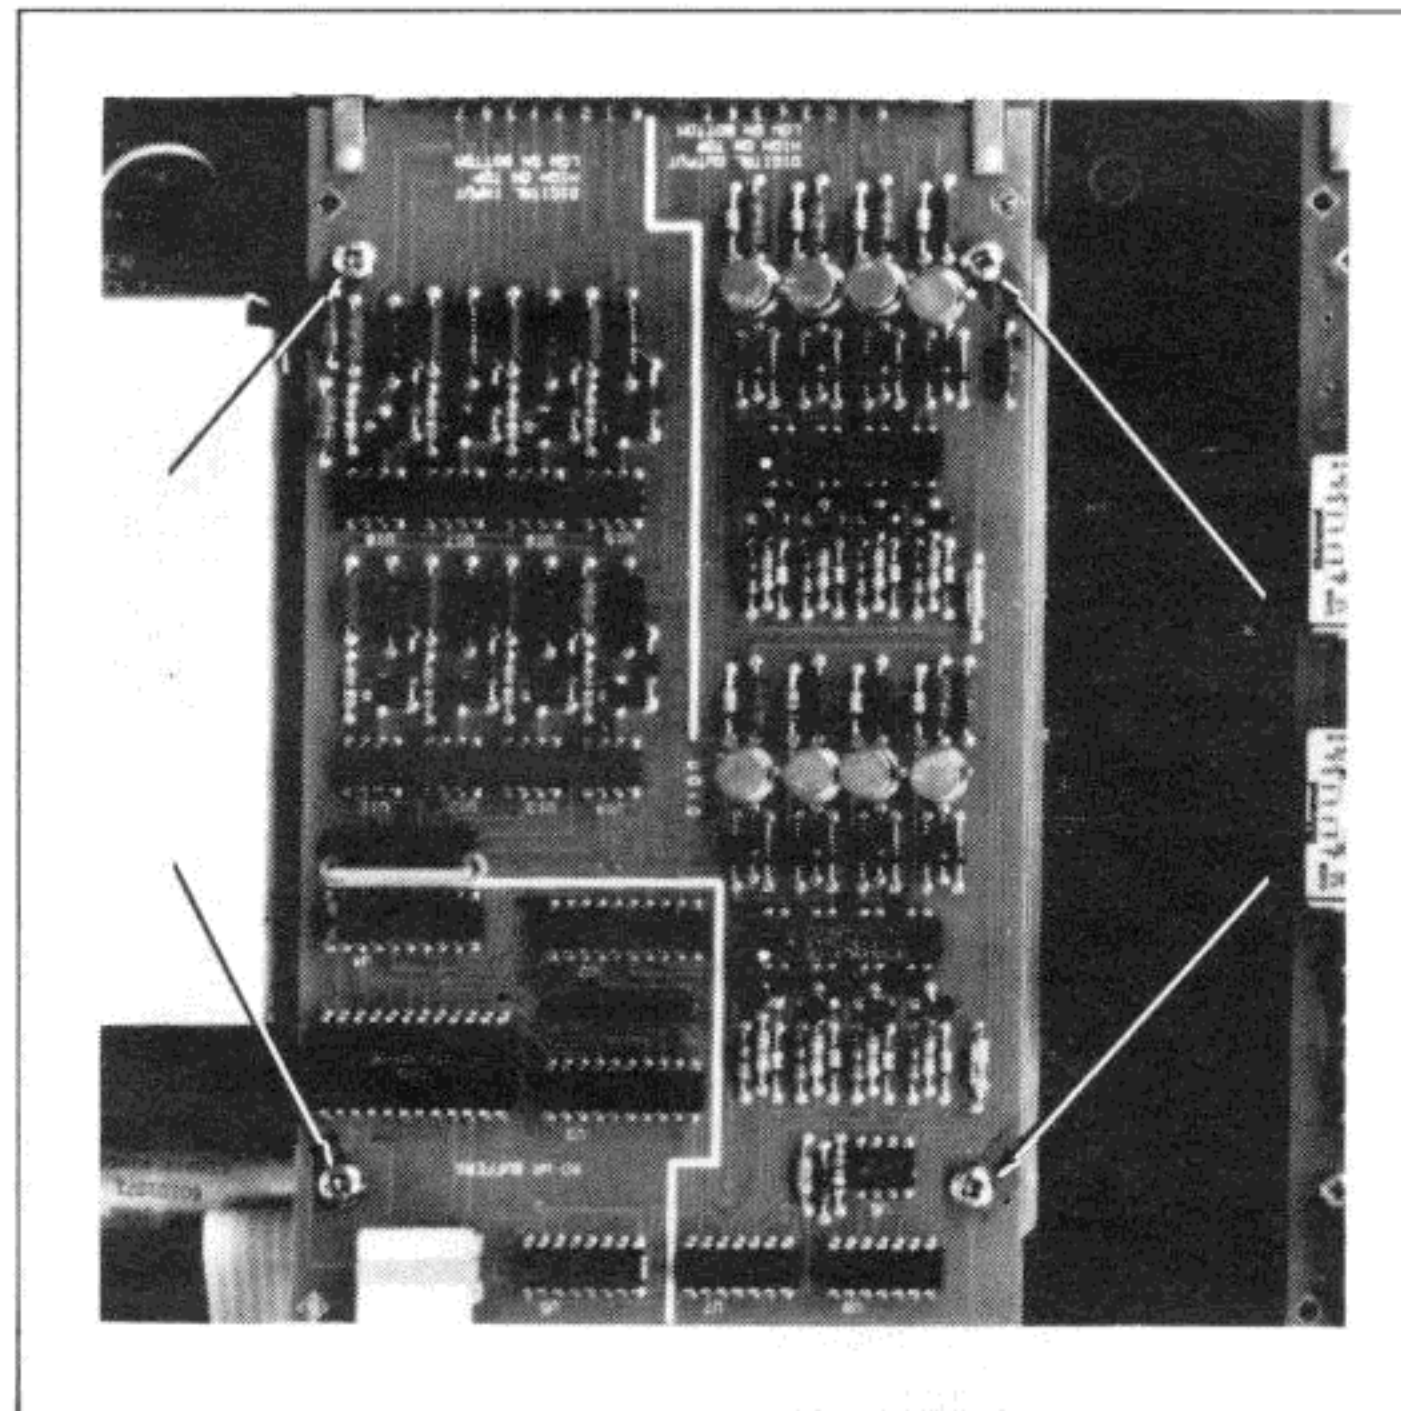

Figure 5-8-2. Slot 2 Option Removal
- g. Refer to Figure 5-8-2 and unplug the ribbon cable connector from the option in slot 2. Lift the connector straight up to avoid bending any pins. If the option is a Multiplexer/Actuator Assembly, also unplug the 4-wire VM input cable. If the option is a Digital I/O or Bread-board Assembly, it will not have the 4-wire VM input cable.
- h. Locate and remove the four screws holding the option in place (see Figure 5-8-2). Then remove the option.